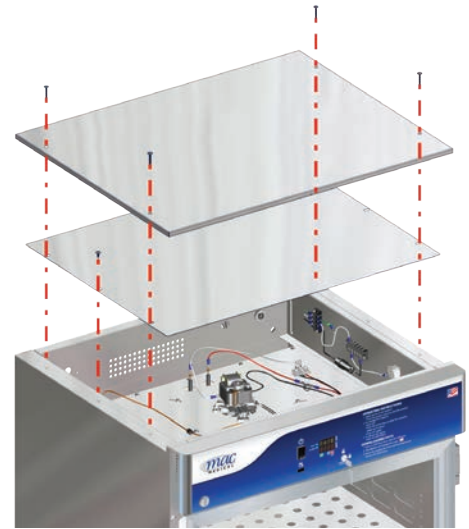

Fig. 29: Remove Top Panels
1. For both glass and stainless steel doors, remove the outside top panel by unscrewing the 4 top panel screws and lifting the panel out. Remove the inside top panel by unscrewing the 2 screws and lift the panel out (Fig. 29).